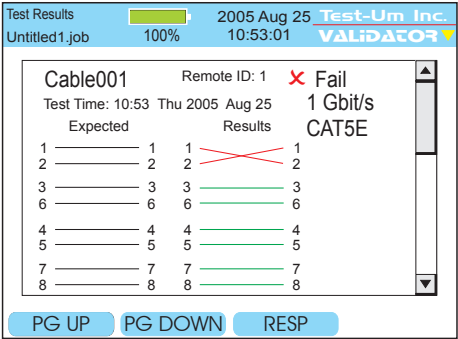

Figure 4.5 Test Results-Miswire
**Miswire** - A wire or both wires of a pair are not connected to correct pins at the other end of the cable. For example, a reverse pair displays the wires connected to the correct pair of pins, but the two leads are reversed. (See Figure 4.5)